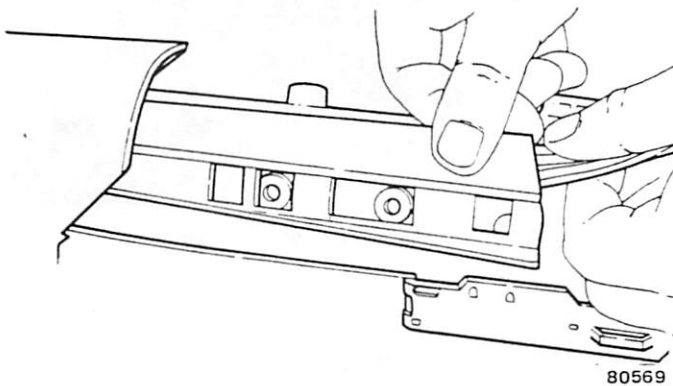

Fig. 2J-48 Harness Protector Removal
(17) Wrap tape around harness connector to prevent snagging connector when removed (fig 2J-49).